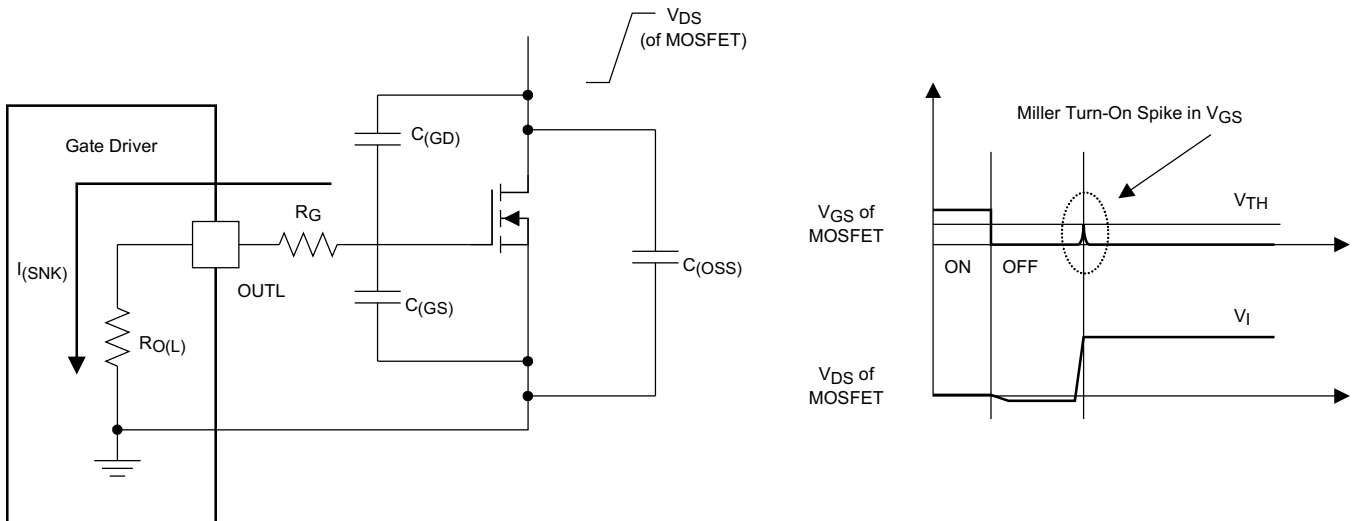

Figure 24. Very-Low Pulldown Impedance in UCC27511A-Q1, 4-A and 8-A Asymmetrical Drive (Output Stage Mitigates Miller Turnon Effect)
An example of a situation where the Miller turnon effect is a concern is synchronous rectification (SR). In an SR application, the dV/dt occurs on the MOSFET drain when the MOSFET is already held in off state by the gate driver. The current discharging the C(GD) Miller capacitance during this dV/dt is shunted by the pulldown stage of the driver. If the pulldown impedance is not low enough then a voltage spike can result in the VGS of the MOSFET, which can result in spurious turnon. This phenomenon is shown in Figure 24. The UCC27511A-Q1 device offers a best-in-class, 0.375-Ω (typ) pulldown impedance boosting immunity against Miller turnon.